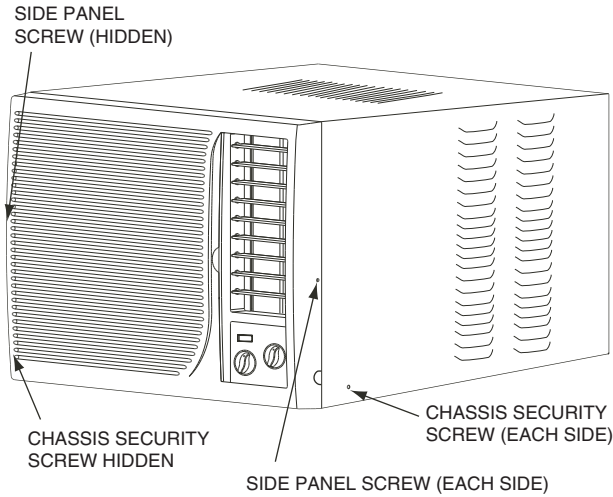
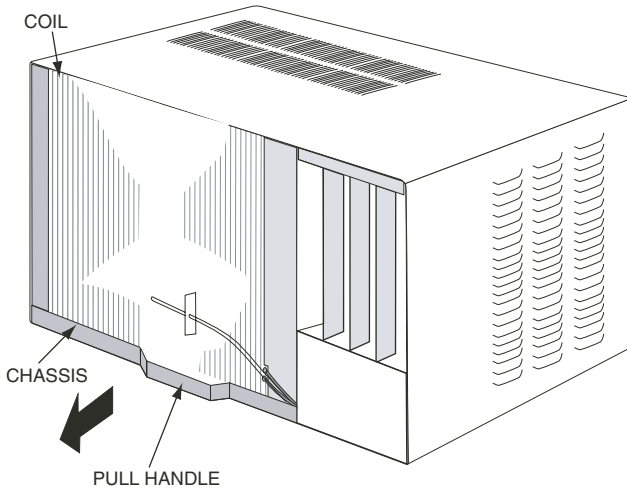

FIGURE 4 — FRONT PANEL REMOVAL
FIGURE 5 — CHASSIS REMOVAL
5. Remove the front panel of the air conditioner by removing the side panel screws (one on each side) and pulling the front panel off the air conditioner chassis. Save the screws for reinstallation. See Fig. 4.
6. Remove the chassis security screws from the sides of the cabinet. Save screws. See Fig. 4. A pull handle is provided for chassis removal. Gently slide the chassis from the cabinet by pulling on the handle. The chassis is heavy and assistance may be required. Take care not to bend or damage the coil fins on the chassis. See Fig. 5.